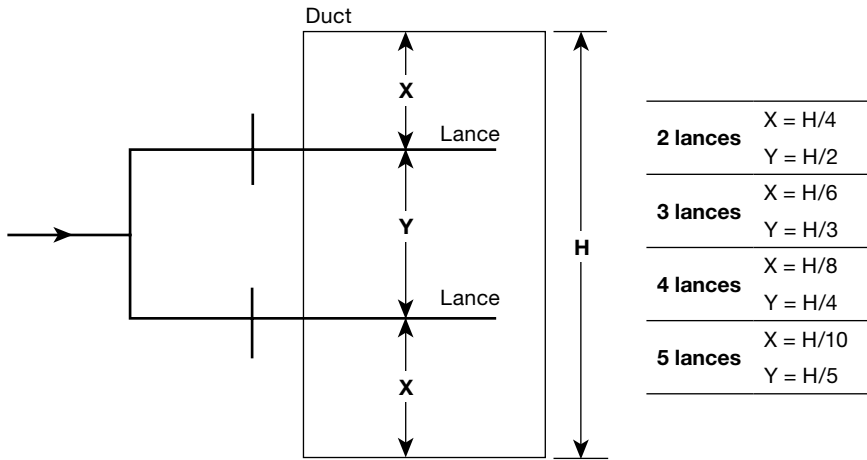

Fig. 3
- 3.2.6 On multi-lance systems, the lances should be assembled such that there is an even distribution of steam over the duct, as shown in Figure 3, page 10. Particular attention should be paid to the position of the main steam supply to the interconnecting pipework - see Figures 5, 11, 12 and 13.
- 3.3.3** To assist in ensuring that there are no problems with steam condensing in the duct and to obtain minimum absorption distance, the lance(s) should be positioned as shown in Figure 3, page 10.